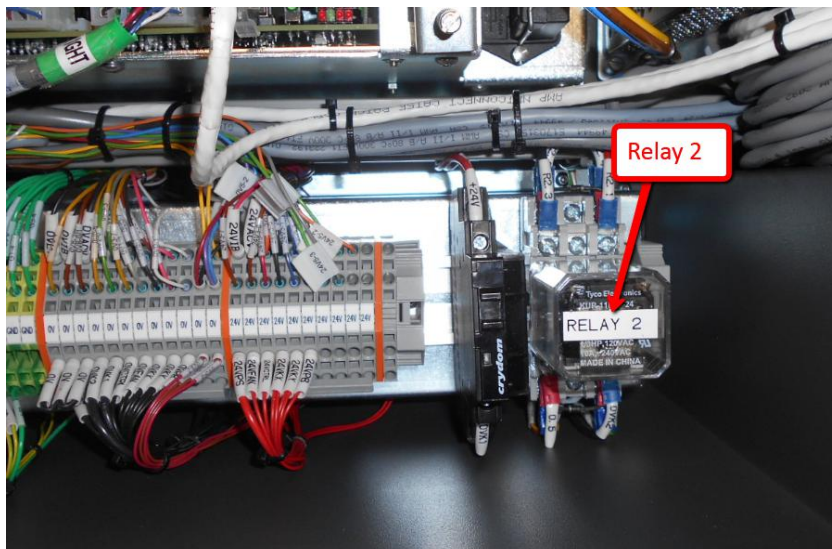

Figure 9 Relay 2 Orientation
3. Assemble New Relay 2 by refer to below orientation. May refer to Figure 9.